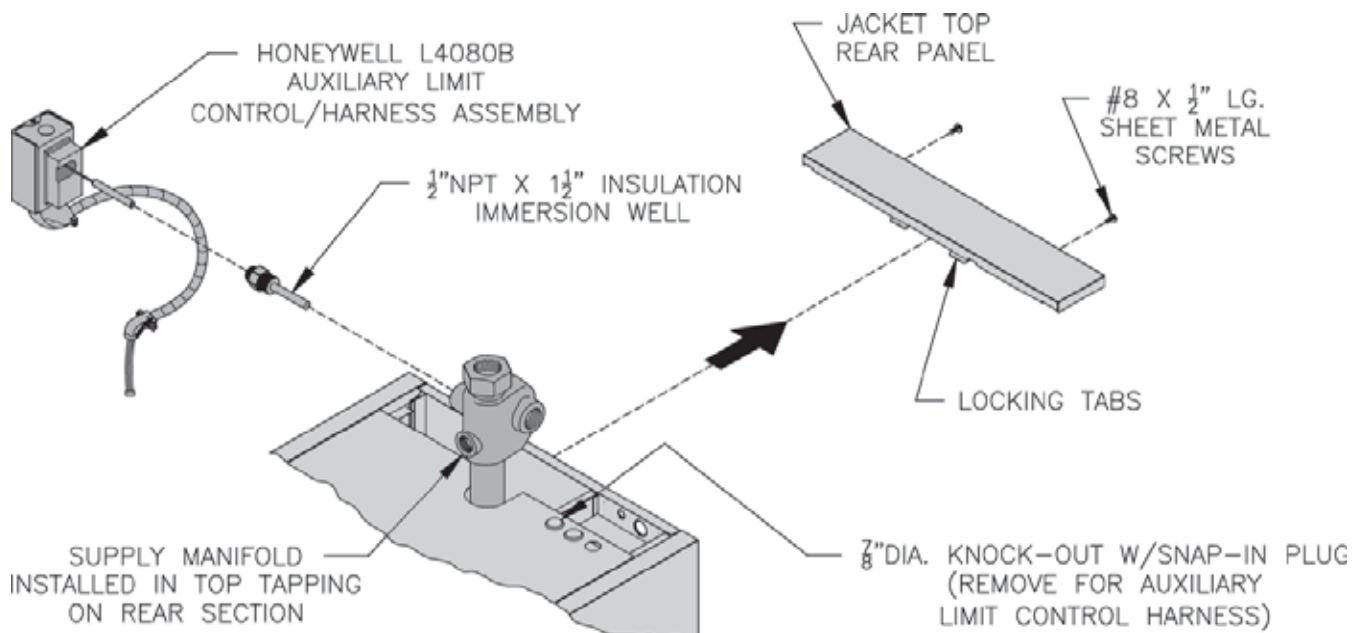

Figure 8: Optional Equipment - Auxiliary Limit Control Assembly Details
3. If required on this water boiler application, install Auxiliary Dual Limit Control Kit, optional equipment - Burnham P/N 100107-01, refer to Figure 8. Also refer to instructions provided with Auxiliary Dual Limit Control Kit.
Step b. Locate L4080B Auxiliary Limit Control/Harness Assembly. Loosen mounting screw on side of case. Insert sensing bulb into immersion well. Mount control on immersion well and tighten screw to secure control in vertical position with harness extending toward rear as shown in Figure 8.